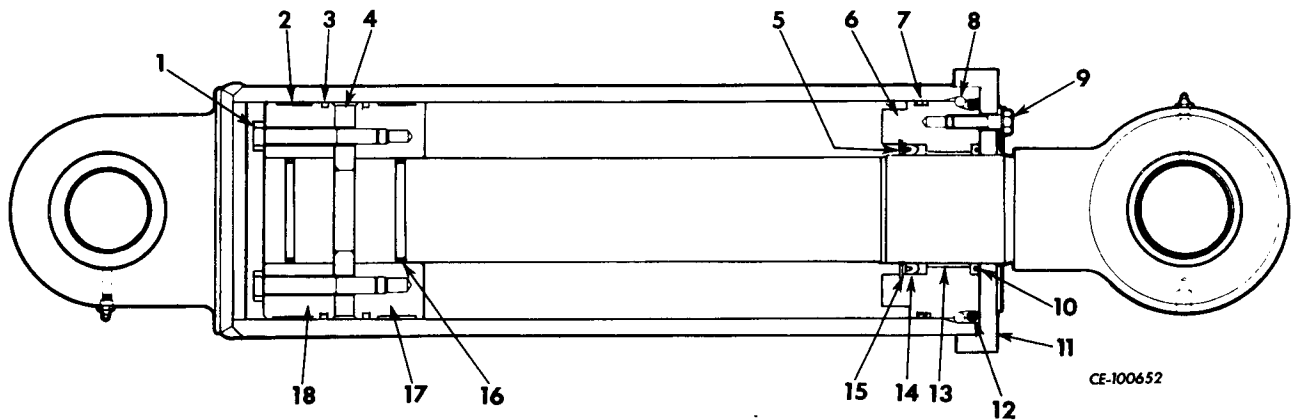

Figure 11-53
Remove cap screws and lock washers (9, Fig. 11-53) that secure end cover (11) to cylinder. Slide cover down rod and remove cord ring (12) from cylinder. Push cap assembly (6) in slightly and remove segmented lock ring (8).
Remove and discard used "O" rings and retaining rings (16, Fig. 11-53) from rod grooves. Remove retaining ring (5) from bore of cap (6) and slide cap assembly from rod. Remove and discard "O" ring and back-up ring (7). Complete cap disassembly by removing packing (14).
Slip cylinder cover (11, Fig. 11-53), cord ring (12) and seal ring (10) on rod. Install new "O" ring and back-up ring (7) on cap (6). Lubricate rod and cap bushing (13) and slide cap onto rod. Install new packing (14) in bore of cap and secure with bushing (15) and lock ring (5).
Install new wear rings (2, Fig. 11-53) on piston halves. Coat piston with oil and start piston and rod assembly into cylinder. Do not damage wear rings or seal rings. When piston has fully entered cylinder, carefully push cap assembly into cylinder, being careful not to damage "O" ring and back-up ring (7). Also, be sure "O" ring and back-up ring are properly positioned, i.e., "O" ring inside, back-up ring outside.